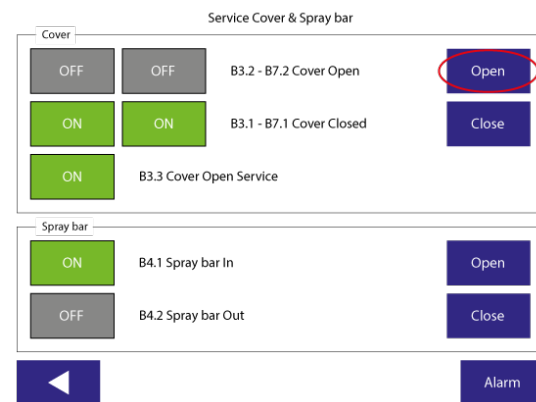

Figure 7.7 Service Cover & Spray bar menu.
5. In the “Service Cover, Spray bar” window, there are 5 position sensors B3.1-B3.3 and B7.1-B7.2, which indicate the position of the cover, see Figure 7.7. When the cover is closed, the “B3.1 - B7.1 Cover Closed” lights come on. In order to lift the filter cover, press the “Open” button until the cover is completely open.
2. When the cover is fully opened on the backwash pipe side, B3.2, B3.3 and B7.2, as shown in Figure 7.7 will come on. The backwash pipe can now be extended, keep the “Out” button as shown in Figure 7.7 pressed until the “B4.2 Spray bar Out” light comes on.